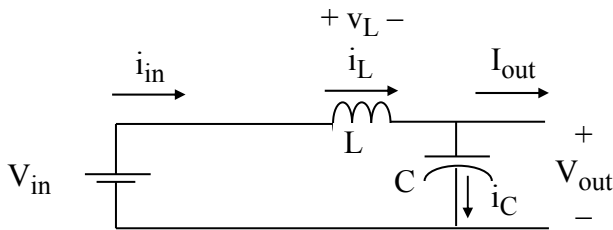

Figure 2a. Switch Closed for DT Seconds
Assuming continuous conduction, the circuit has two states: switch closed and switch open as shown in Figures 2a and 2b respectively.
$$\frac{di_L}{dt} = \frac{v_L}{L} = \frac{V_{in} - V_{out}}{L}, \quad 0 \leq t \leq DT, \quad \text{[KVL, from Figure 2a.]} \quad (2)$$